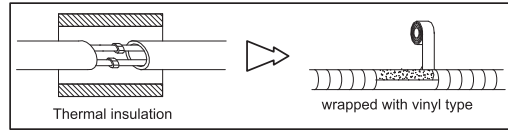

Fig. 13
- 5) After connecting piping as required, install the drain hose. Then connect the power cords. After connecting, wrap the piping, cords and drain hose together with thermal insulation materials (Fig.13-Fig.15).